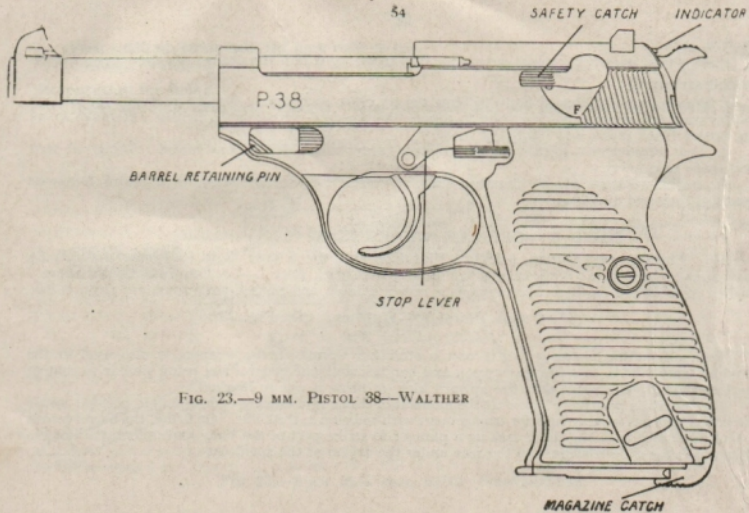

FIG. 23.—9 MM. PISTOL 38—WALTHER
37. 9 mm. Pistol 38—Walther. (See Fig. 23)*Pistole 38.*